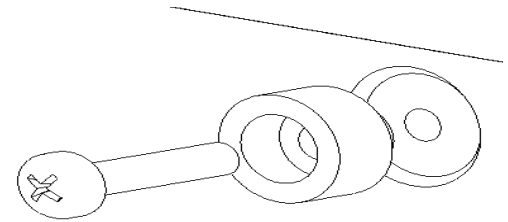

Figure 24. Remove Sony Mounting Buttons
1. Using a Phillips screwdriver, remove the four mounting buttons attached to the back of your Large Flat Panel display (see Figure 24).